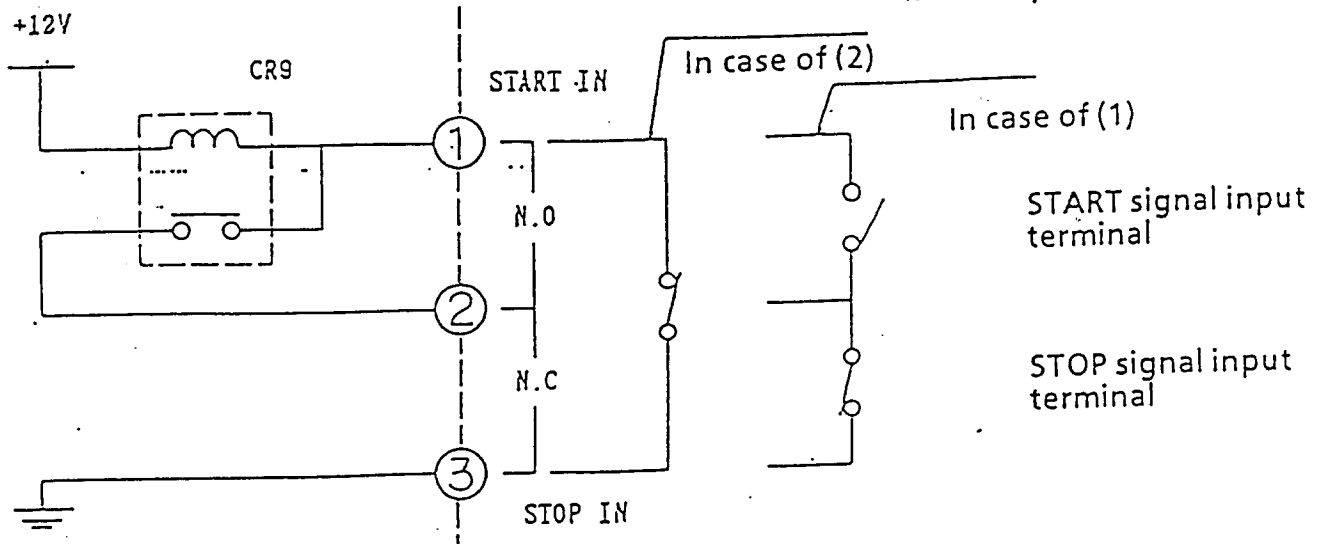

Fig. 15 Terminal table for remote input signal (START / STOP TB5)
The terminal table for a contact type remote input signal. Use it according to Table 10 and Fig. 15.
- In Fig. 15, G2VN-237PL DC12V (manufactured by Tateishi Electric Co.) is used for relay CR9.